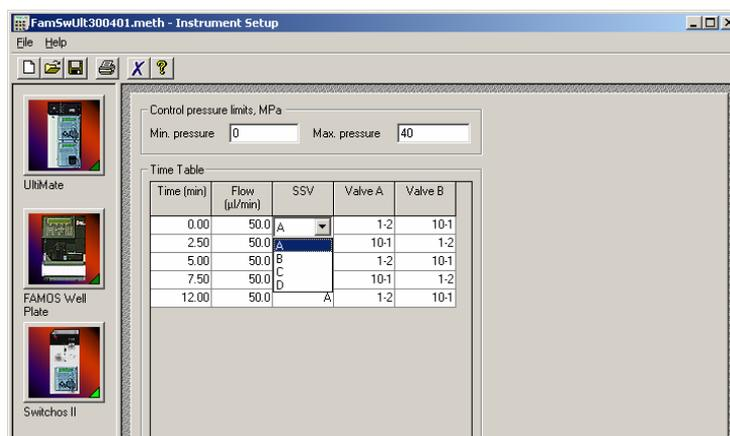

FIGURE 2-36 The Switchos II Setup Window
- a) Choose the Switchos II icon in the **Instrument Setup** window to display the Switchos II setup window (FIGURE 2-36).